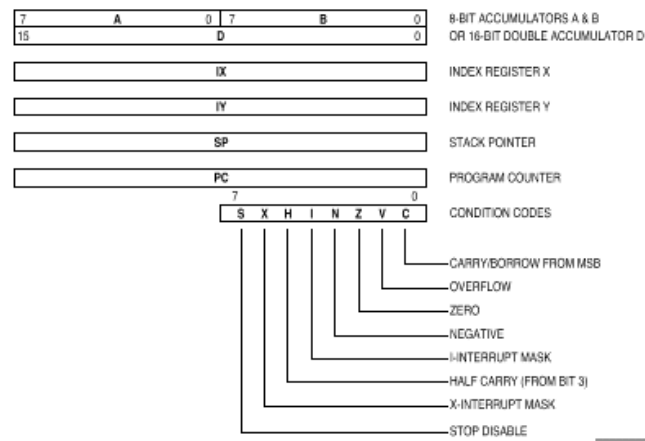

Figure 15.2: MC68HC11 Programmers model (from [2])
The 68HC11 registers consists of the accumulators (A, B), that also can be used as a double accumulator D, index registers X and Y, program counter (PC), stack pointer (SP) and the condition code register (CCR), see Figure 15.2.